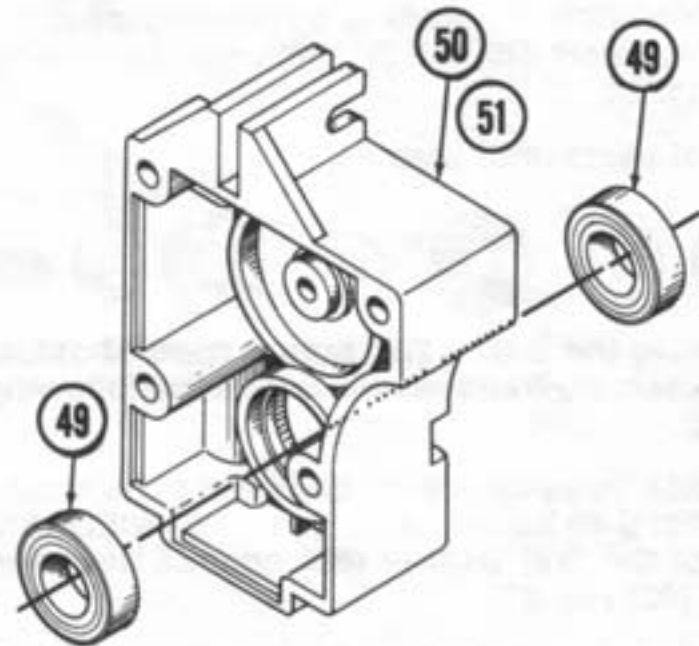

Figure 19
5. Insert one 8mm x 14mm bearing (49) into each side of lower bearing seat in both gearbox halves; left (50), right (51). Fig. 19